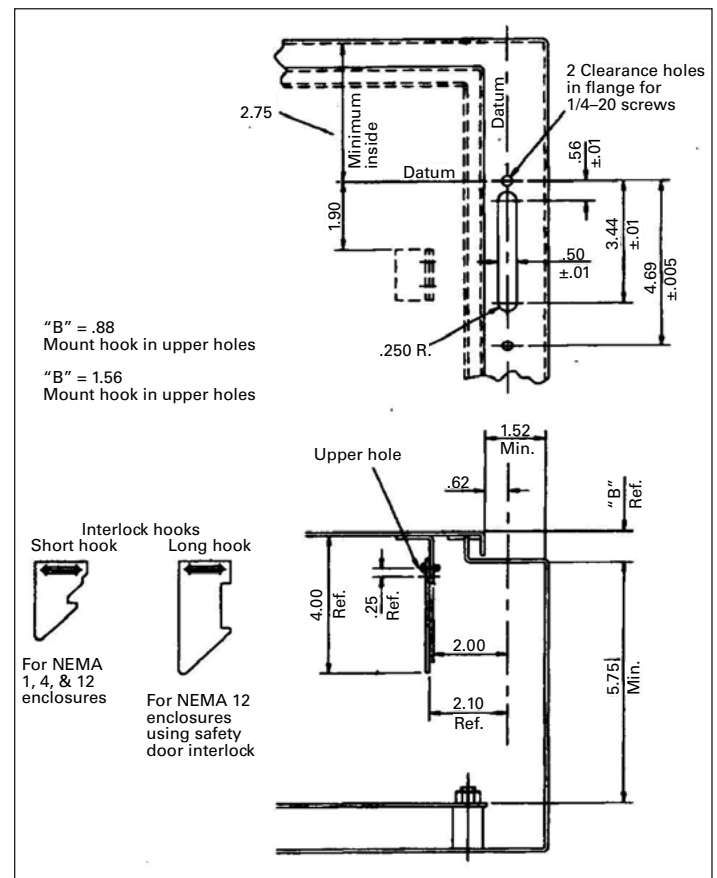

Figure 9. Flange drilling plan for handle and interlock blade mounting dimensions.
2. Place the outer handle mechanism with attached gasket over the enclosure cutout. (For cut-out dimensions, refer to Figure 9). Insert the top 1/4-20 outer handle mechanism mounting screw and lock washer through the enclosure and thread into the outer handle mechanism for a few turns, but not all the way.
12. Install appropriate door hardware (supplied) (see Figure 9).